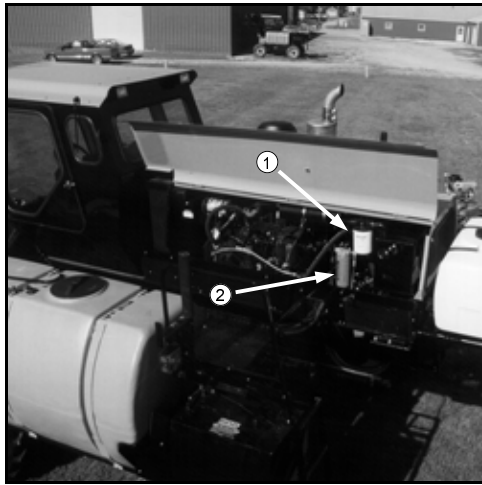

FIG 8.24
Remove and install a new 10 Micron rated suction filter (fig. 8.24, item 1) at the end of the first 50 hours of use; subsequently, replace the filter every 250 hours, or once a year, whichever comes first.
Remove and install a new 4 Micron rated charge pressure filter (fig. 8.24, item 2) at the end of the first 50 hours of use; subsequently, replace the filter every 250 hours, or once a year, whichever comes first.